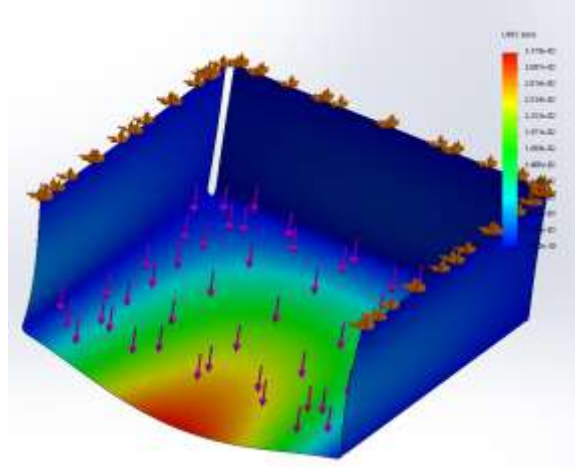

Figure 11
6. When the study is done running double-click on Displacement1 (-Res disp-). From here you can see the max displacement of the part. In Figure 11, this value is $3.379e-02$ mm.
7. Take a screenshot of the model similar to that of Figure 11 and include it in your HW10 submission with a brief caption.